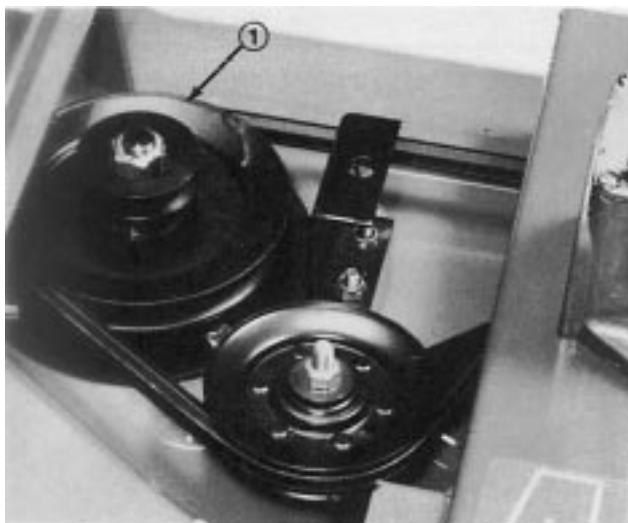

Figure 2
5. Two double-groove pulleys are supplied with the kit. Install the Double "D", double-groove pulley and original mounting nut on cutting units with serial numbers below 90001. On cutting units with serial numbers 90001 and above, install the splined, double-grooved pulley and a new nut. Torque nut to 55 ft. lb. (75 N·m) (Fig. 2).
6. Install deck belt around large pulley (Fig. 2).